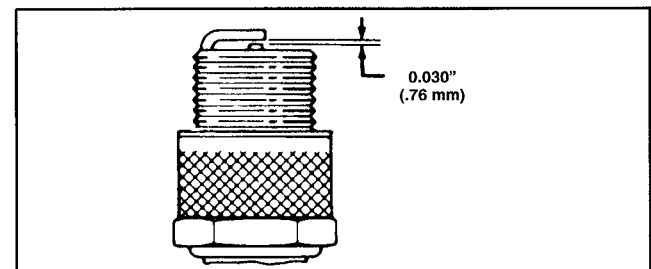

Figure 15
3. Set air gap at 0.030" (0.76 mm) (Fig. 15). Install correctly gapped spark plug and gasket seal. Tighten plug firmly to 15 ft-lb (20 N-m).